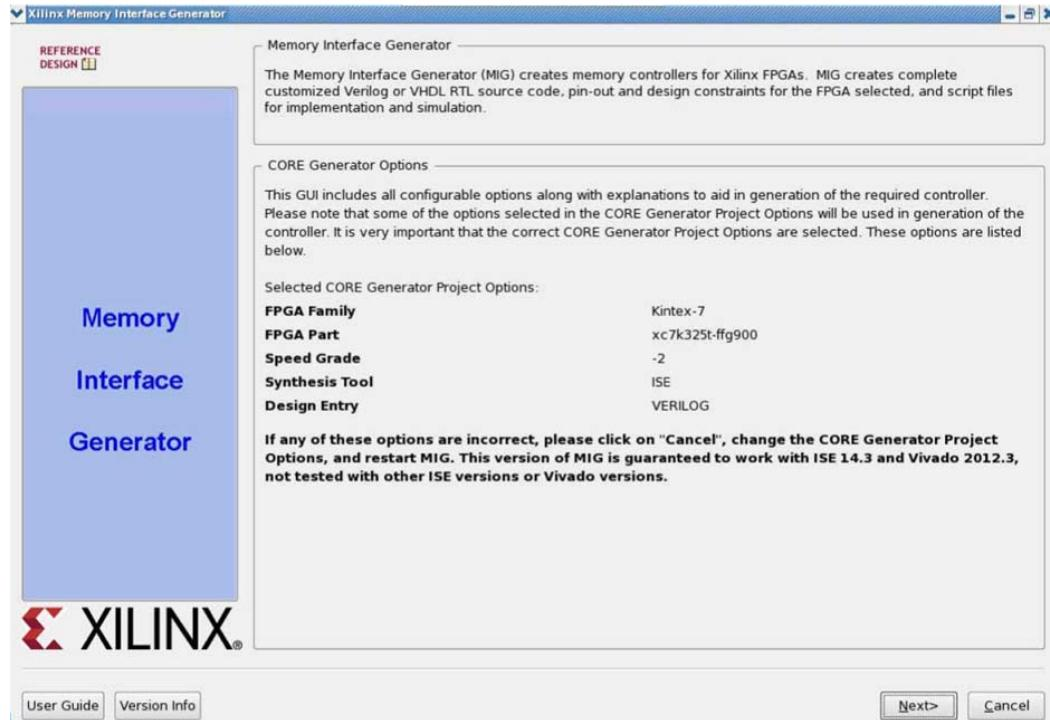

Figure 6-13: 7 Series FPGAs Memory Interface Generator FPGA Front Page
13. Select **MIG 7 Series** to bring up the MIG tool (Figure 6-13).